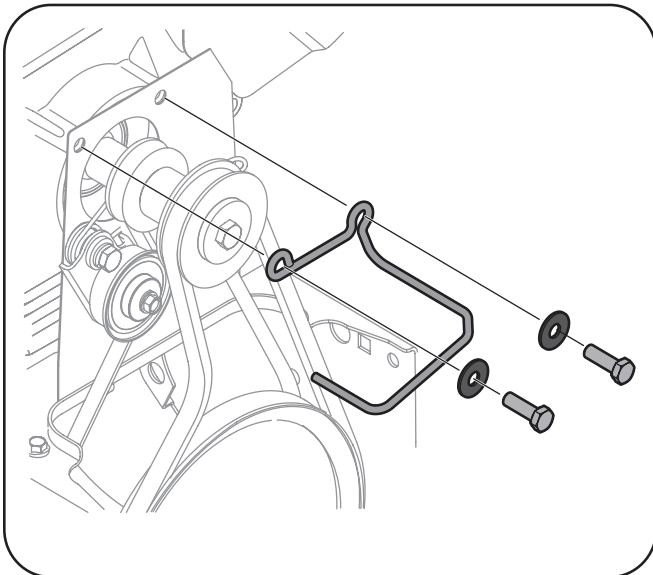

Figure 7-2
3. Remove the wire belt keeper by removing the two hex bolts and flat washers. See Figure 7-2.